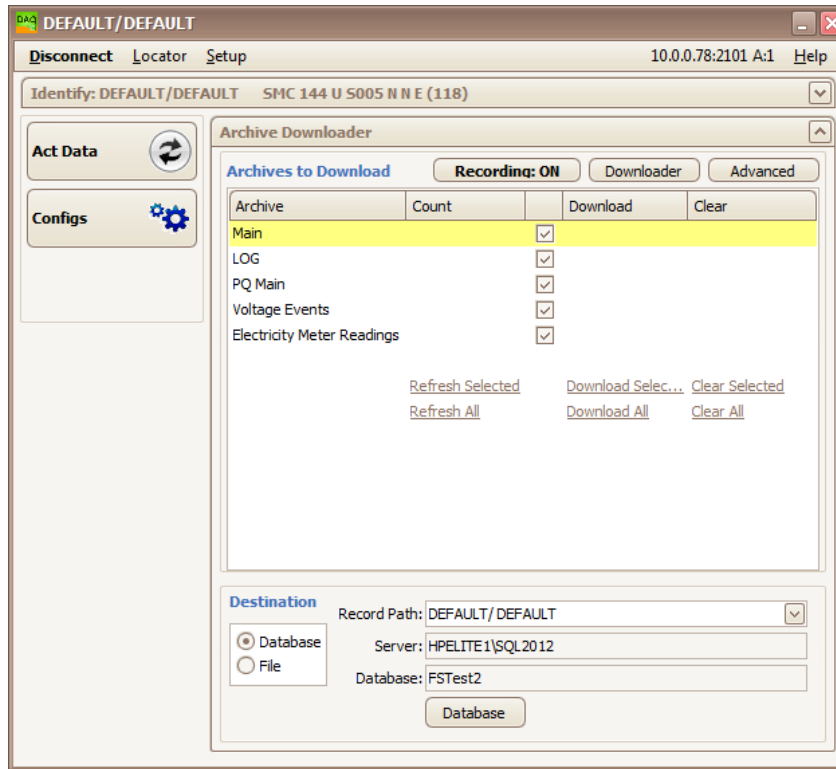

Figure 15: ENVIS.Daq application connected to the instrument.
5. Press the *Connect* button or the *ENTER* key. application will attempt to connect to the instrument. In case of successful connection it reads the configuration from the instrument and displays new window with summary information (figure 15).